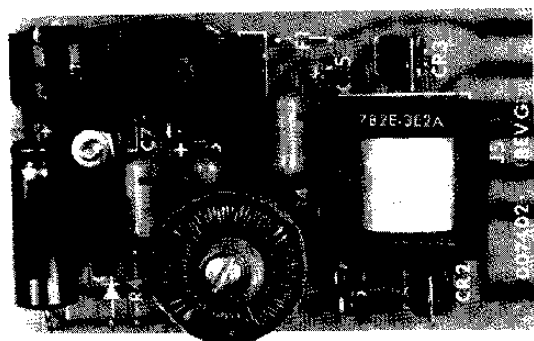

Figure 9—Inverter Board
**Inverter Board**—The inverter board (Figure 9) is used in controllers that are powered by a 12 vdc or 24 vdc supply (ac models have a power transformer). The controller is not field convertible from ac to dc power, but may be ordered from the factory for automatic ac to dc switchover in case of line (mains) supply failure. The automatic ac to dc switchover models use the inverter board in addition to a power transformer and related circuitry. If ac input power to the transformer fails, a switching relay will de-energize and close the contacts that connect the output of the inverter board to the controller. (A 12 vdc or 24 vdc supply must be connected to the input of the inverter board.)